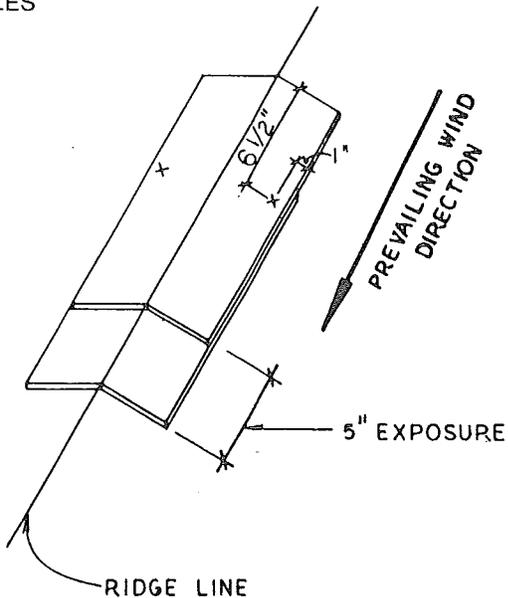

FIG. 5-25
9. Cut shingles for ridge cap and install as shown in Figures 5-25 and 5-24.
**NOTE: TO PREVENT WIND LIFTING AND POSSIBLE LEAKAGE, THE RIDGE CAP SHINGLES SHOULD BE ORIENTED WITH RESPECT TO PREVAILING WINDS AS INDICATED IN FIG. 5-25.**